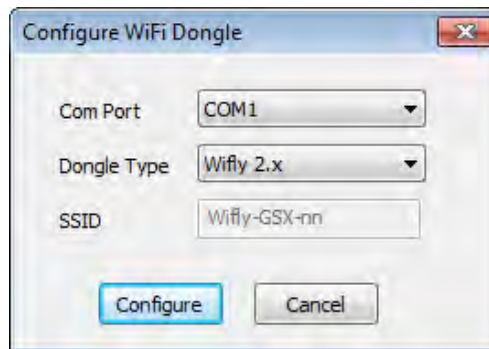

Figure 3-7: Lynx MAT – WiFi Accessory
2. From the Lynx MAT menu select Tools→Configure WiFi Dongle. See Figure 3-7.